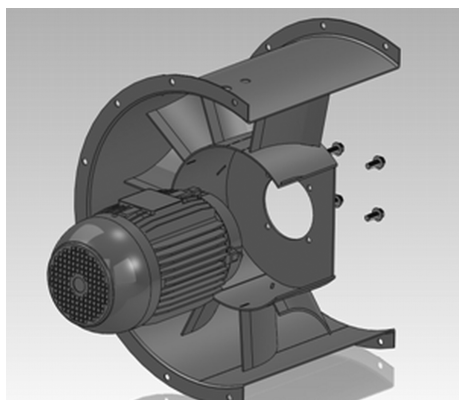

Fig. 7: Replacing the motor (B5)
- We recommend that the operator notifies the manufacturer's customer service in good time in accordance with the marked test label (see fig. 7).